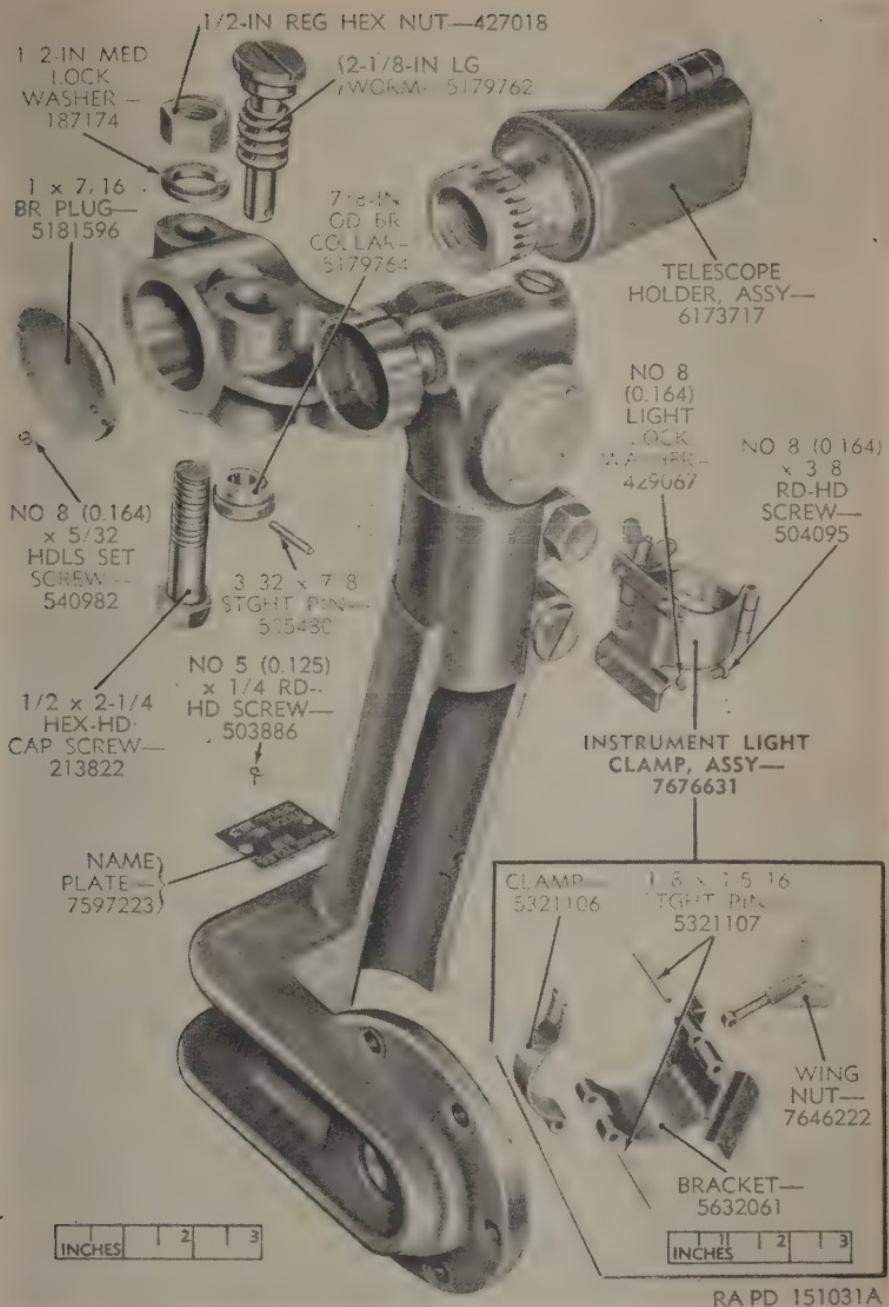

Figure 39. Telescope mount M31—removal of the major assemblies—exploded view.
92. Removal of the Telescope Holder Assembly (fig. 39)
93. Removal of the Instrument Light Clamp Assembly (fig. 39)
94. Removal of the Nameplate (fig. 39)
(fig. 39)
(fig. 39).